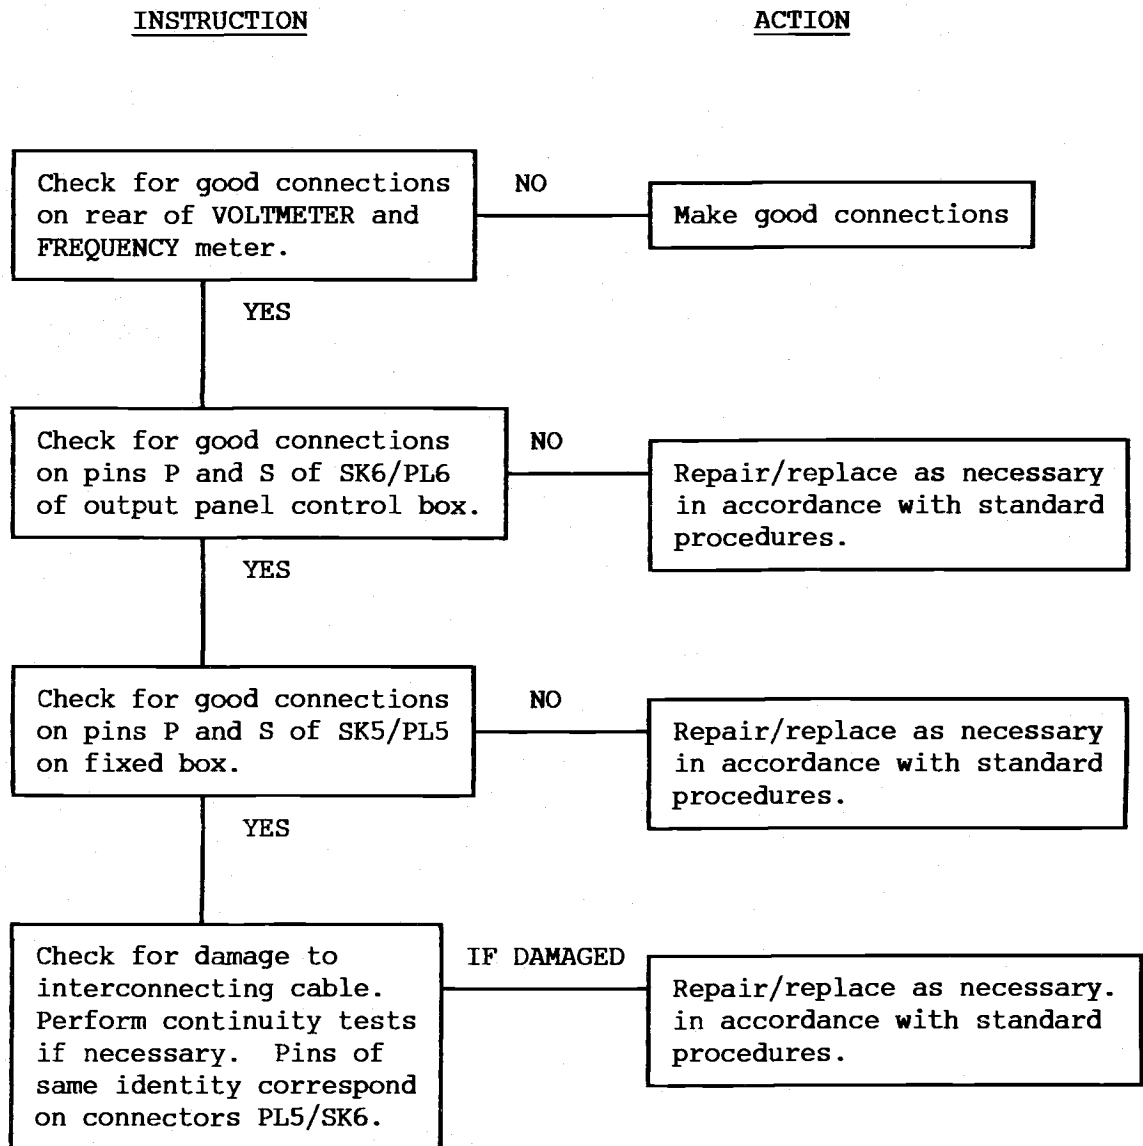

Fig 6 POWER ON Lamp Circuit - Diagnostic Flowchart 2
10. Follow fig 6 flowchart and refer to Fig 7.